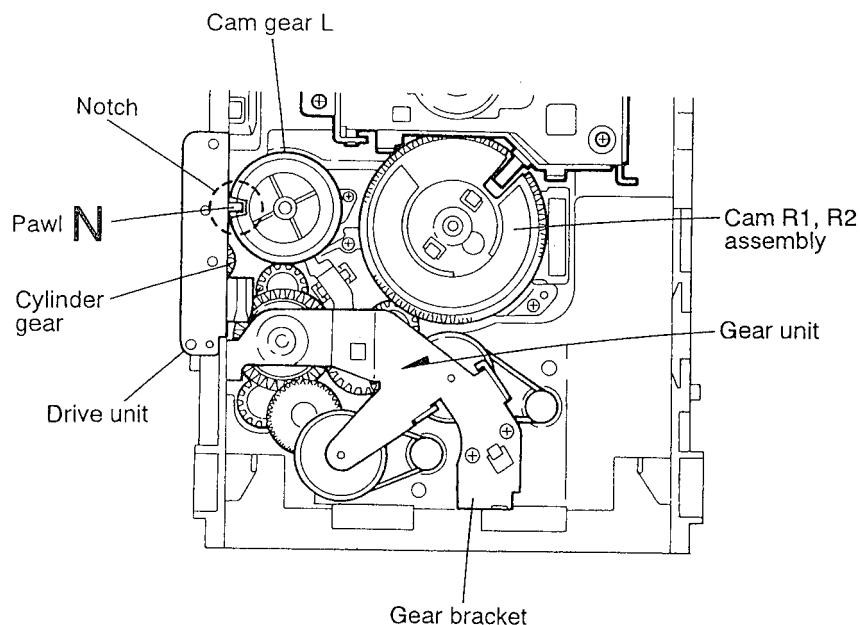

Fig.5-58
**[Caution]** To reassemble the cylinder gear, etc. with the cam unit (cam gear and cams R1/R2 assembly), gear unit and drive unit, align the position of the pawl "N" on the drive unit to that of the notch on the cam gear L. Then, make sure that the gear unit is engaged by turning the cam gear L. (See Fig.5-58)